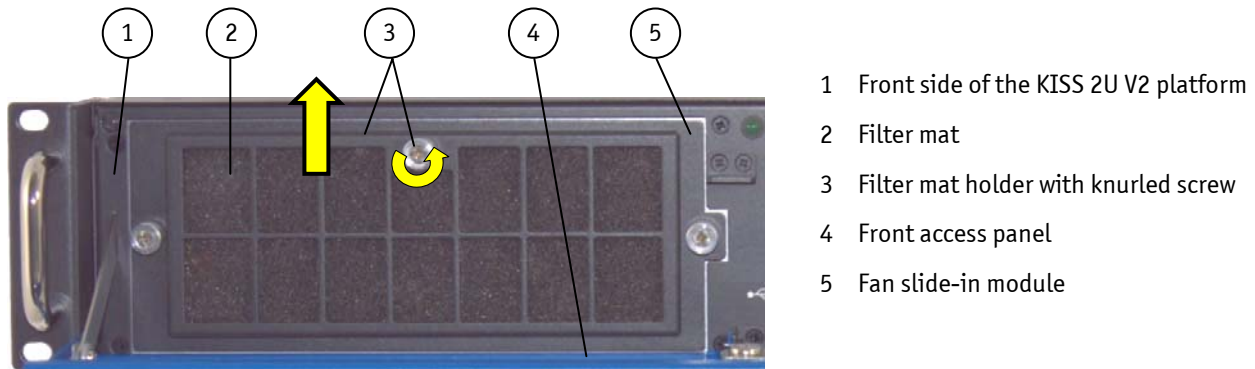
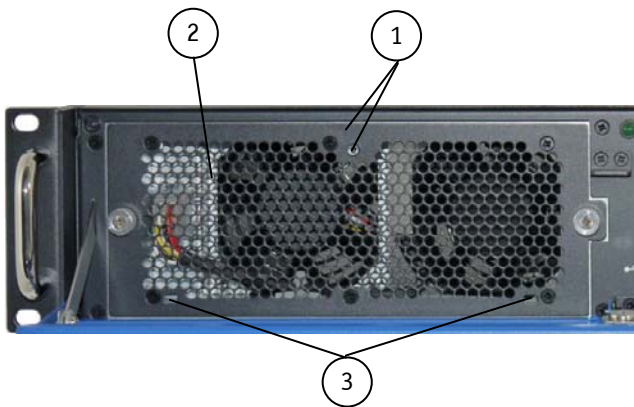

Fig. 36: Detail with filter mat holder on the front side of the KISS 2U V2 platform
Fig. 37: Detail without filter mat holder on the front side
The filter mat (Fig. 36, pos. 2) is inserted in the filter mat holder (Fig. 36, pos. 4) at the front side of the fan slide-in module (Fig. 36, pos. 5). The soiling of the filter mat is caused by the pollution of the operating environment. A heavily soiled filter mat can cause excessive heating of the device. For this reason we recommend to clean the filter mat as often as necessary. The filter mat can be replaced during operation of the system.
1. Open the front access panel (Fig. 36, pos. 4).
2. Loosen the knurled screw that secures the filter mat holder to the fan slide-in module (Fig. 36, pos. 3 and Fig. 38, pos. 5).
3. Pull the filter mat holder out from the positioning holes (Fig. 37, pos. 3) in the direction marked with the arrow (Fig. 36) and lift it off.
7. Reattach the filter mat holder to the front side of the fan slide-in module by inserting the positioning latches (Fig. 38, pos. 6) into the positioning holes (Fig. 37, pos. 3).
8. Fasten the filter mat holder by tightening the knurled screw (Fig. 38, pos. 1) to the bolt with tapped hole (Fig. 37, pos. 1) at the fan slide-in module.
Legende für Fig. 37 und Fig. 38: